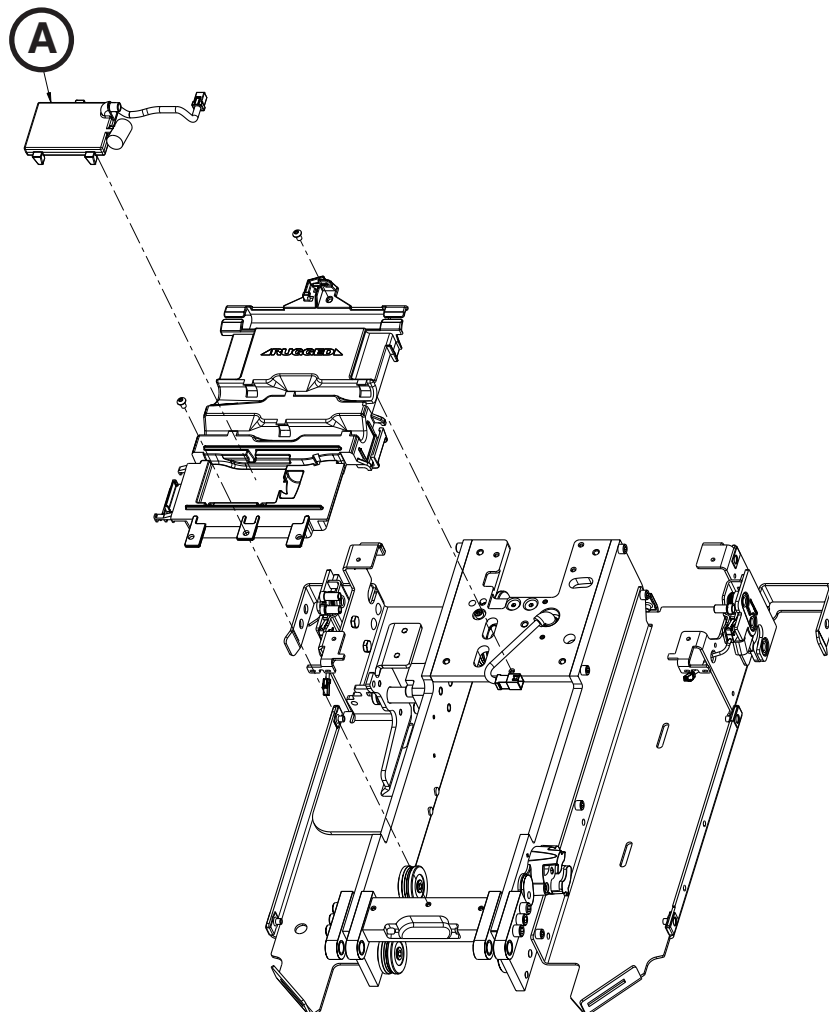

Figure 76
4. Lift up on the trolley communication board (A) to remove (Figure 76). Discard the communication board.